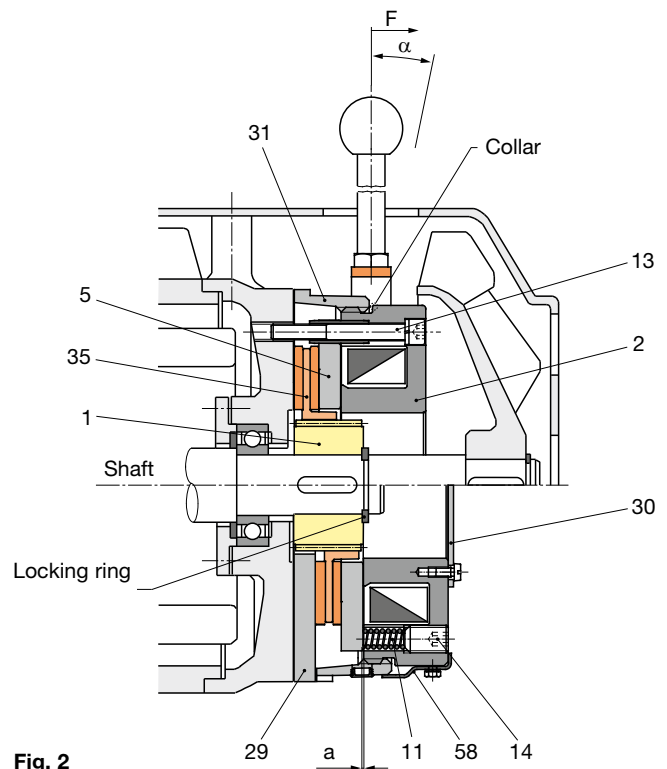

Fig. 2
- The positional tolerance of the threads for the cap screws (13, Fig. 2) must not exceed 0,2 mm.
- A suitable counter friction surface made of steel or grey cast iron must be provided for the rotor (35). Sharp-edged interruptions on the friction surfaces must be avoided. If no suitable counter friction surface is available, our flange plate (29, Fig. 2, lower half) can be used.
In the design with a mounted cover plate (30, Fig. 2, lower half), the brake is completely enclosed and corresponds to Protection IP54.
The ROBA-stop® brakes are set manufacturer-side to the braking torque stipulated on order. By turning the set screws (14, Fig. 2, page 24) to the left, the braking torque is reduced. By turning them to the right, the braking torque is increased.
When adjusting the braking torque, all set screws (14, Fig. 2, page 24) must be adjusted evenly.
If the braking torque is to be decreased to a larger extent, some springs (11, Fig. 2, page 24) must be removed. To do this, it is necessary to remove two springs which lie opposite to each other, to guarantee an even load on the armature disk (5).
The working air gap between the armature disk (5) and the coil carrier (2) is set manufacturer-side to the nominal dimension "a", Fig. 2, page 24 and Table 1, page 25.
4. Tighten the fixing screws (13) (tightening torques acc. Table 1) and attach the lock washer (58).
Re-adjustment can be repeated until the threaded distance ring (31) lies against the coil carrier (2) collar, Fig. 2, page 24. This contact prevents unpermitted wear on the rotor (35). Replace the rotor (35) if re-adjustment is no longer possible.